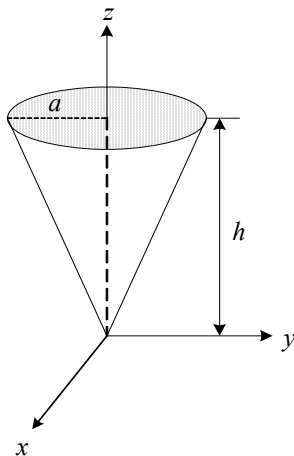

Figure 1: The surface for problem 3
**Problem 3.** Consider the conical surface  $S$  shown in figure 1. The cone has height  $h$  and base radius  $a$ . Evaluate the closed surface integral of the following vector fields: **(a)**  $\mathbf{F} = r \mathbf{a}_r$ . **(b)**  $\mathbf{F} = r \mathbf{a}_\theta$ . **(c)**  $\mathbf{F} = \cos \phi \mathbf{a}_\phi + r \mathbf{a}_\theta$ .